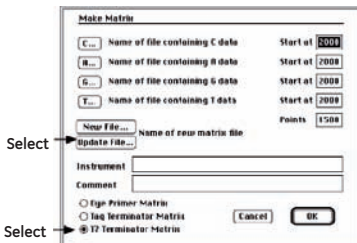

Fig 1. Make matrix window
4. Choose the menu function **Make Matrix...** under the **Utilities** menu. This function will display the window in Figure 1: